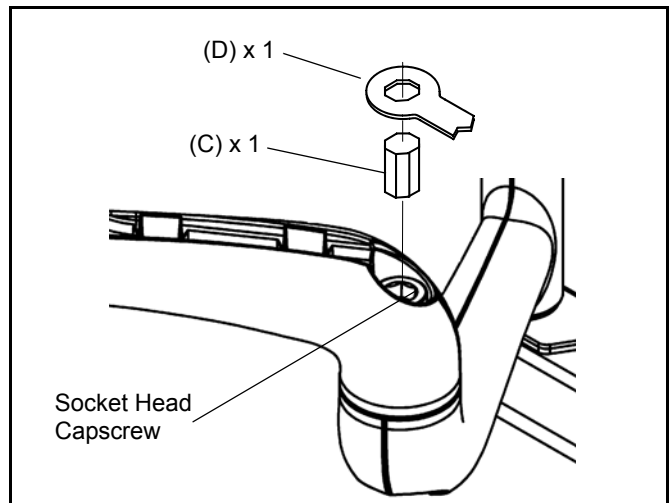

Figure 14
1. Locate the adjustment bar (H) and adjustment wrench (J).
2. Place adjustment bar (H) into socket head cap screw located at swing arm pivot point. (See Figure 14)